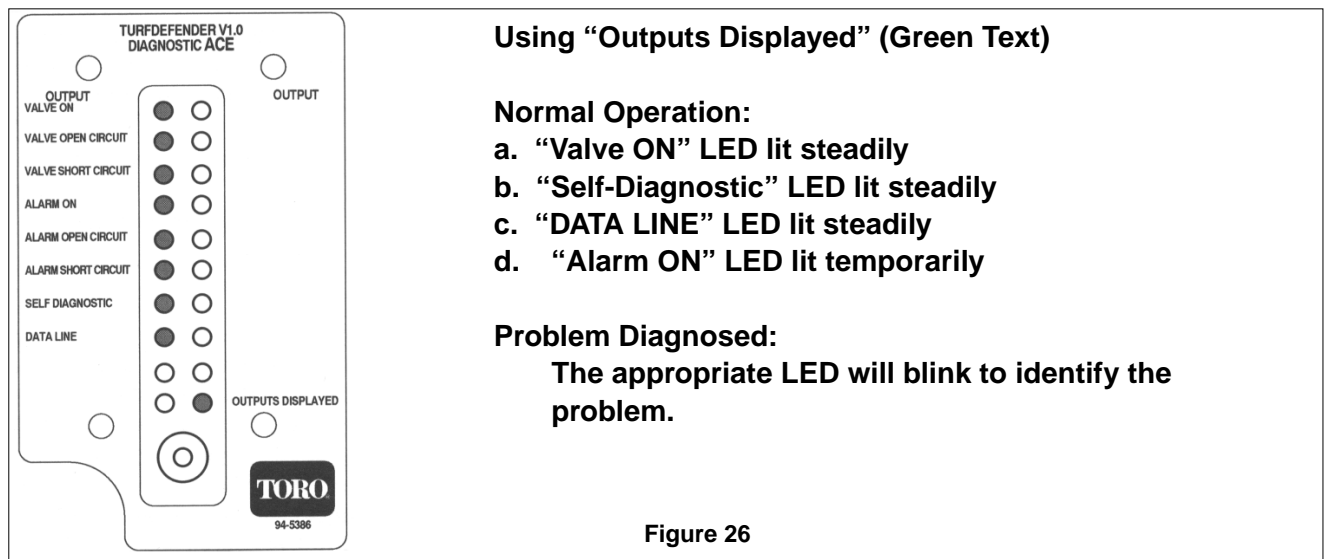

Figure 26
2. Press the toggle button until the green "Outputs displayed" LED is lit. "Valve ON", "data line" and "self diagnostic" LED's should be lit steadily. "Alarm ON" LED may be displayed temporarily (about 5 seconds) (Fig. 26).
2. Toggle "outputs displayed" on Diagnostic ACE display (Fig. 26).
2. When toggling "output" a LED should display (Fig. 26) any of the following problems diagnosed by the TurfDefender: